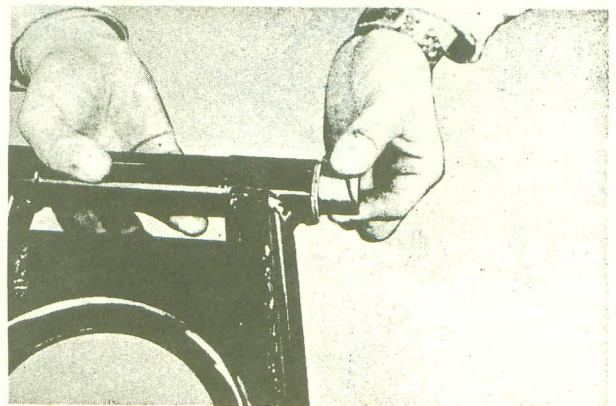

Fig. 5-8-4
2) Insert the bushing as indicated in Fig. 5-8-4, and check it for play. If the play is excessive, replace the bushing.